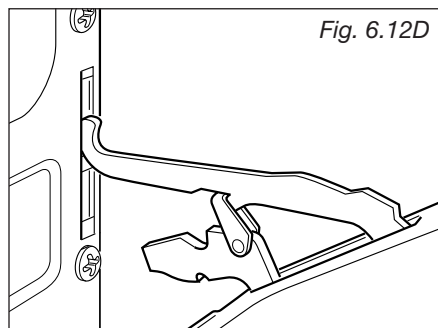

Fig. 6.12D
- Withdraw the upper hinge pins from their location (fig. 6.12D).